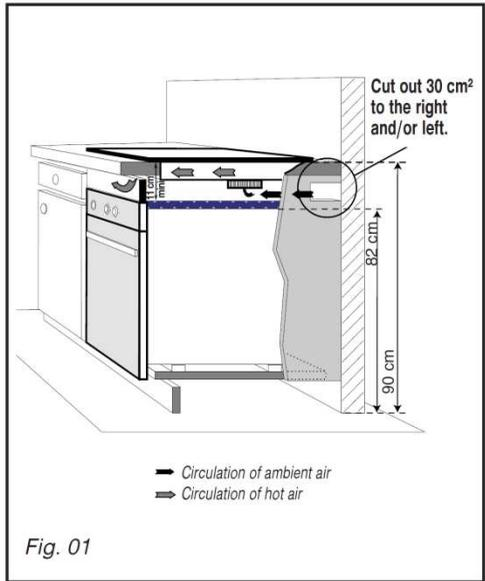

Fig. 01
– If you wish, you can immobilise the hob using the four mounting brackets delivered with a screw (Fig. 02) to attach them to the four corners of the housing. **You must use the holes provided for this purpose, according to the diagram above (Fig. 01).**
#### – Above an oven (Fig. 01)
We suggest cutting out a 30 cm2 ventilation hole at the rear of one of the sides of the housing (Fig. 01).
— Connect the wires to the electricity supply, taking note of the colour of each wire (*Fig.01*).
– **Use a flexible metal hose** (stainless steel) with **screw-on mechanical** connectors (compliant with the NF D 36-125 standard) with an unlimited guarantee (Fig. 01).